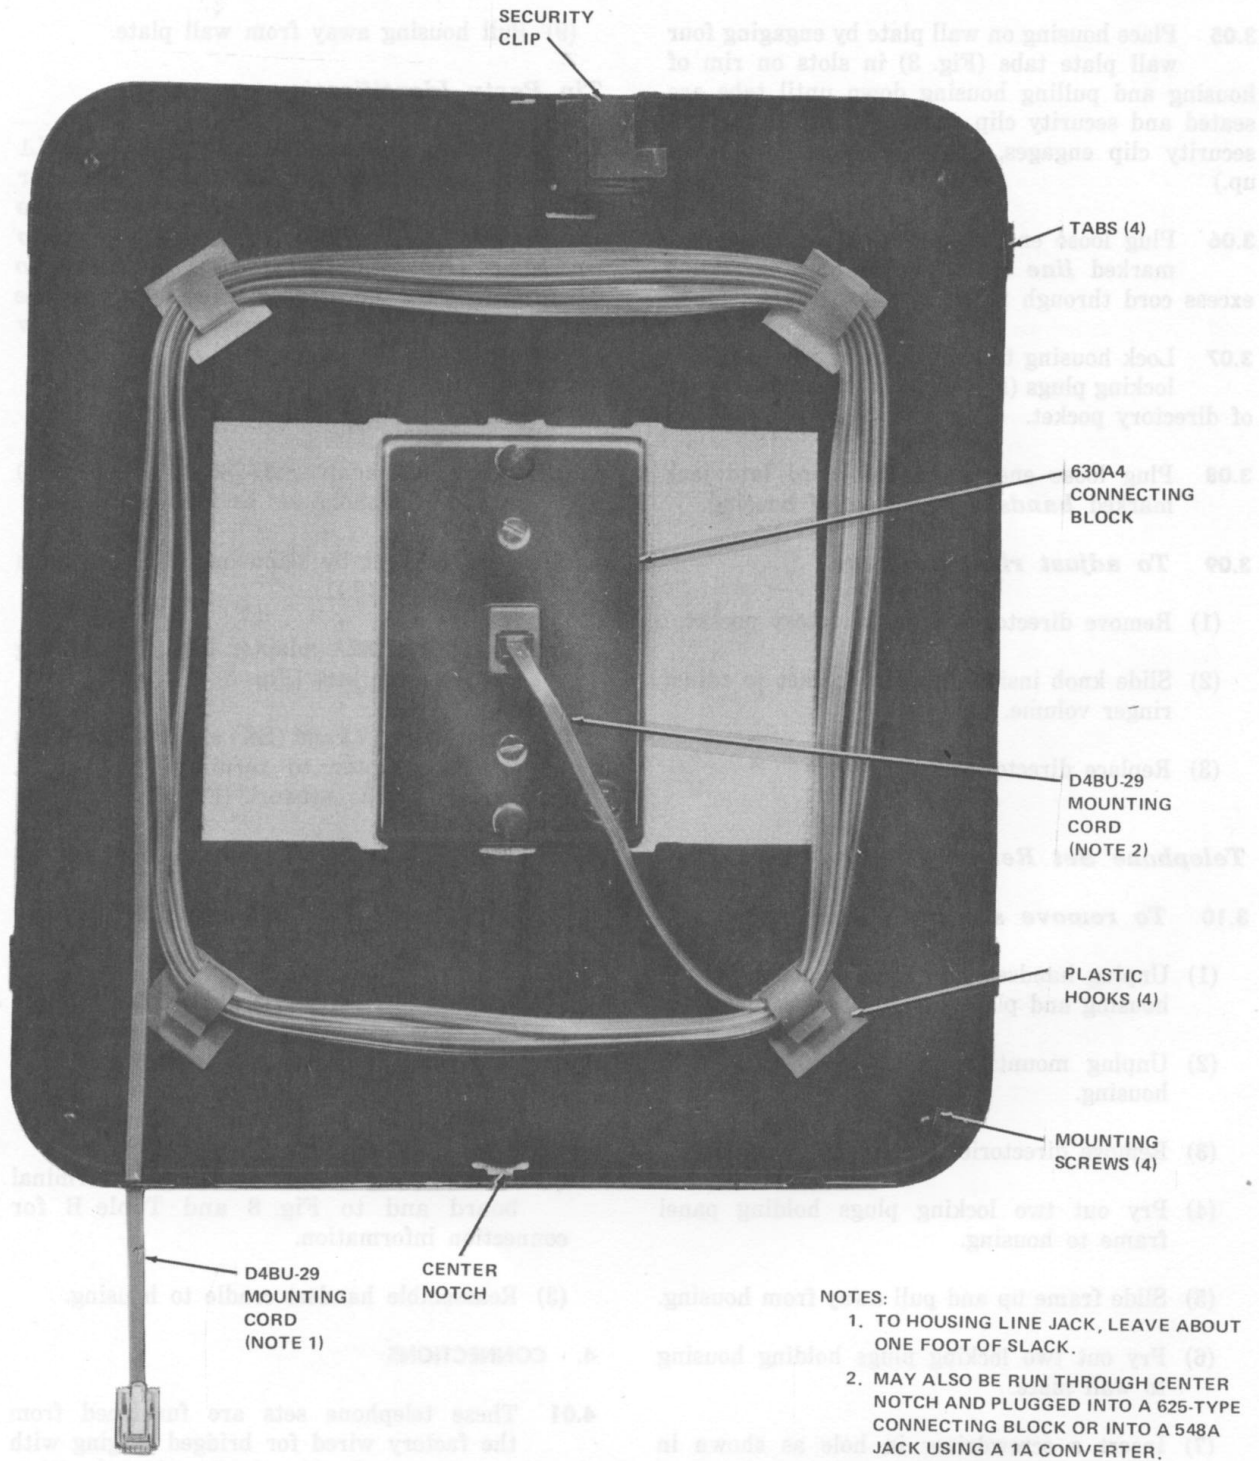

Fig. 3—950A- or 2950A-Type Telephone Set, Mounting Cord Arrangement
and mark the two upper and two lower mounting screw holes (Fig. 3).
- (b) If a 625-type connecting block or 548A jack is provided, place wall plate against wall at a convenient height in the vicinity of the connecting block or jack and mark the two upper and two lower mounting screw holes (Fig. 3).
- (2) Attach wall plate to wall with appropriate fasteners.
- (3) Plug one end of mounting cord into 630A4 connecting block, 625-type connecting block, or 548A jack using 1A converter. Run mounting cord up through the center notch at bottom of wall plate (Fig. 3) if a 625-type connecting block or a 548A jack is used.
- (4) Wind excess cord on plastic hooks on wall plate leaving approximately one foot of loose cord (Fig. 3).
- (5) Secure loose mounting cord end in one of the notches on lower edge of wall plate. (Use left notch if handset is to go on the left side and use right notch if handset is to go on right side.)
3.05 Place housing on wall plate by engaging four wall plate tabs (Fig. 3) in slots on rim of housing and pulling housing down until tabs are seated and security clip engages housing. (When security clip engages, housing cannot be pushed up.)